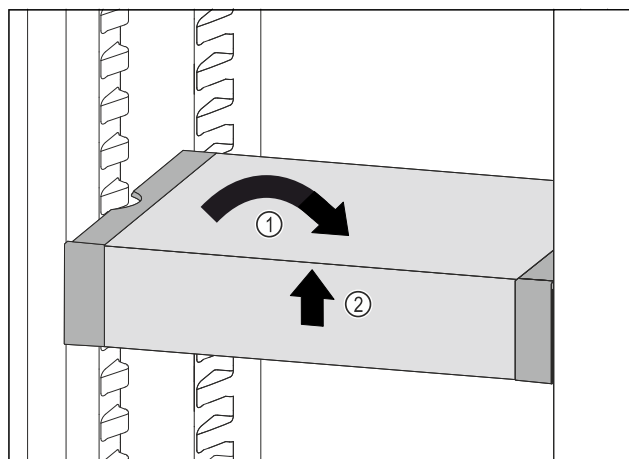

Fig. 115
- Set VarioSafe straight. Fig. 115 (1)
- Lift VarioSafe at the front. *Fig. 115 (2)*